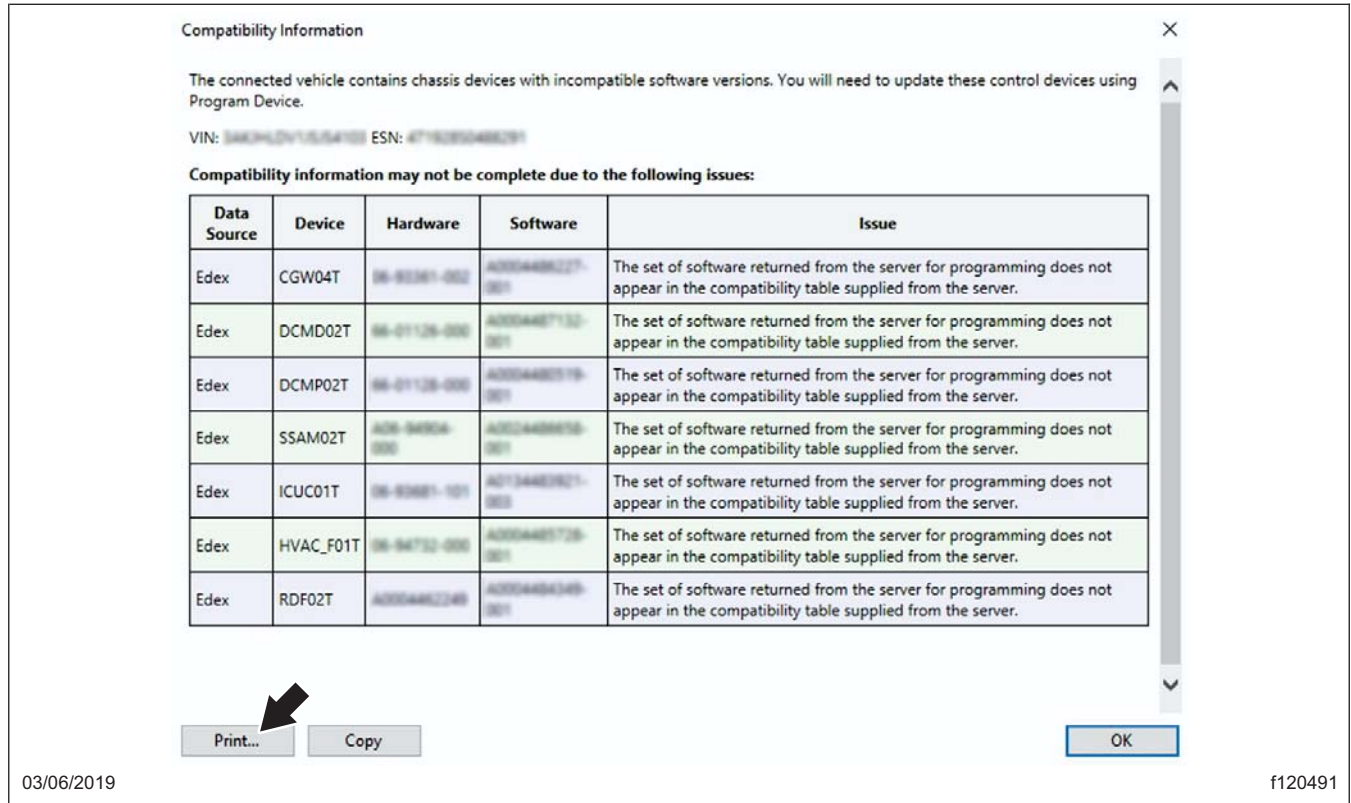

Fig. 12, Printing the Compatibility Information Pop-Up
- 10.1 Print or take a screen shot of the Compatibility Information window; an example of this window is shown in Fig. 12.